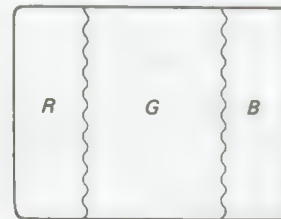

Fig. 5-3.
9. Turn the PURITY adjusting knob so as to center the green band on the screen as shown in Fig. 5-3.